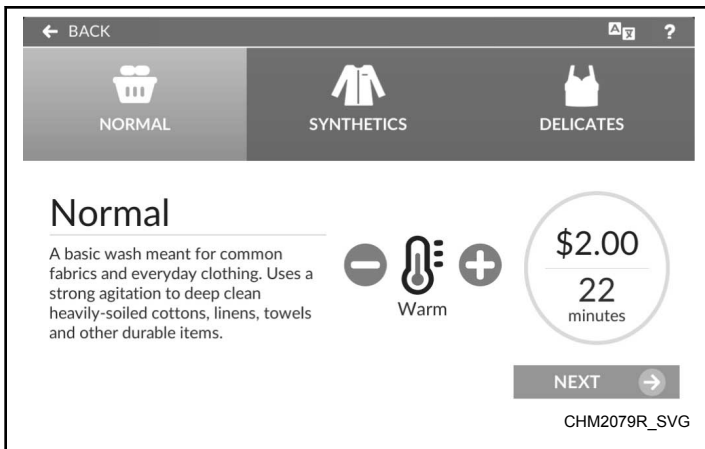

Figure 8
1. Select a cycle from the cycle options menu *All Cycles* Page. Select the desired temperature, then touch NEXT (refer to *Figure 8*).